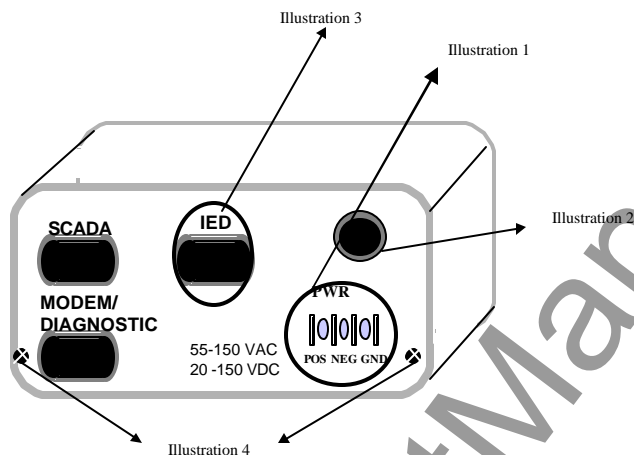

Figure 1A – Orion Table Top Connector Location
1. It is imperative to realize that the ORION is available in two formats, a 19" rack mount version and a Table Top version. Please refer to the appropriate diagrams when using this guide. Apply power to the universal power supply according to the markings on the unit as shown in Figure 1 or Figure 1A as depicted in illustration 1. The unit accepts voltages from 55 to 200 V a.c. or 20 to 280 V d.c.